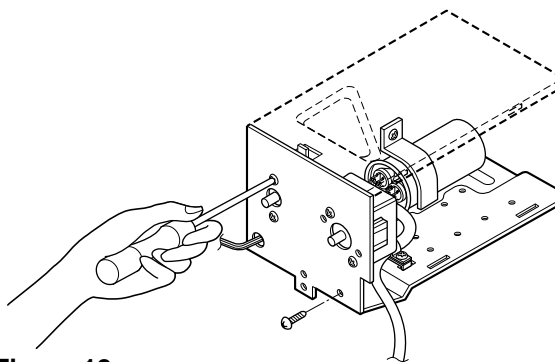

Figure 12
6. Re-install the components by refereing to the above removal procedure. (See Figure 12)